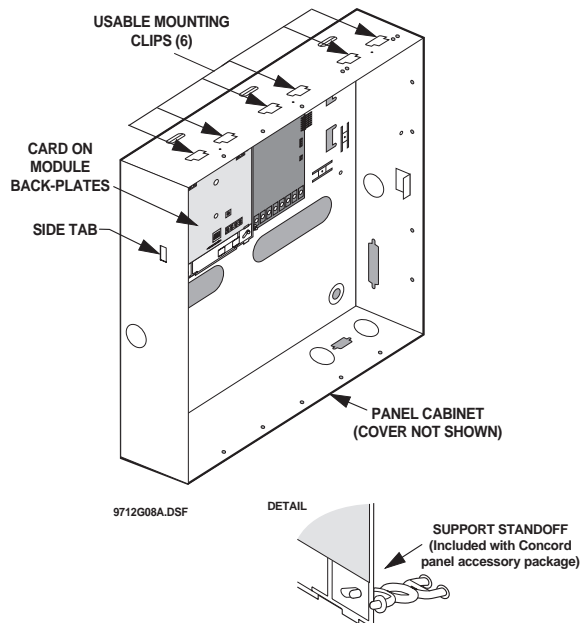

Figure 6. Mounting Module in Concord Cabinet
4. Slide the module back-plate onto the two clips located on the top-left corner or center of the cabinet (Figure 6).
5. Push the lower-right corner of the module onto the support standoff (see detail in Figure 6).